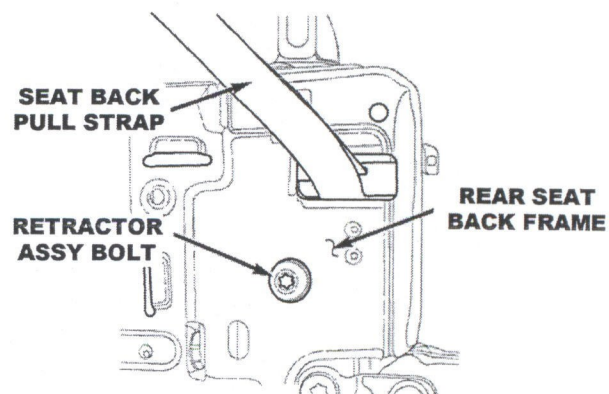

Figure 7 Seat Back Rear View
26. Remove the seat belt retractor assembly bolt below the pull strap from the back of the seat back frame (Figure 7).
30. Install and tighten the seat belt retractor assembly bolt below the pull strap from the back of the seat back frame that secures the retractor. Tighten the screw to 32 ft-lbs (43 N·m) (Figure 7).